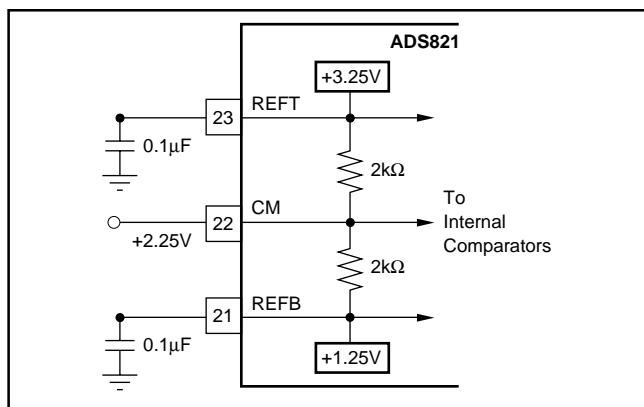

FIGURE 3. Internal Reference Structure.
The analog input of the ADS821 can be configured in various ways and driven with different circuits, depending on the nature of the signal and the level of performance desired. The ADS821 has an internal reference that sets the full-scale input range of the A/D converter. The differential input range has each input centered around the common-mode of +2.25V, with each of the two inputs having a full-scale range of +1.25V to +3.25V. Since each input is 2Vp-p and 180° out-of-phase with the other, a 4V differential input signal to the quantizer results. As shown in Figure 3, the positive full-scale reference (REFT) and the negative full-scale reference (REFB) are brought out for external bypassing. In addition, the common-mode (CM) voltage may be used as a reference to provide the appropriate offset for the driving circuitry. However, care must be taken not to appreciably load this reference node. For more information regarding external references, single-ended inputs, and ADS821 drive circuits, refer to the applications section.